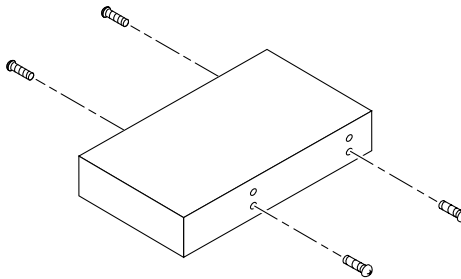

FIGURE 2-2 Starting the Mounting Screws
a. Start the four mounting screws in the side of the drive (see FIGURE 2-2).